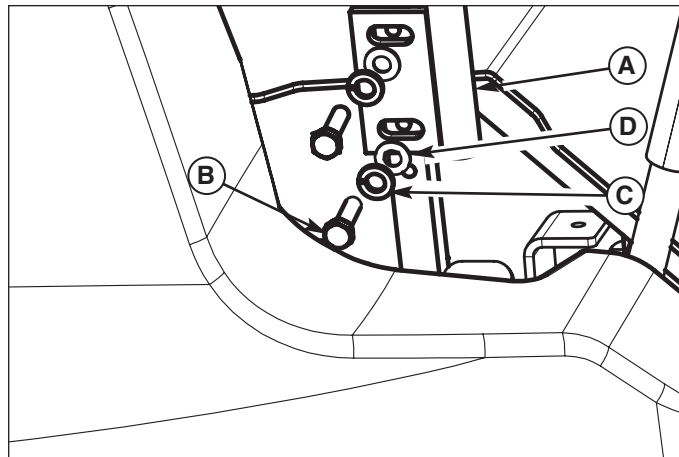

Figure 4. Install the Control Handle(s)
2. Install the ground speed control handles (A, Figure 4) onto the control lever base using the 5/16-18 x 3/4" bolts, 5/16" lock washers and 5/16" flat washers (B, C, & D). Prior to tightening the bolts, align the handles with each other.
NOTE: There is a LEFT-HAND and a RIGHT-HAND control handle. When assembled to the base, the handle base should be pointing towards the rear as shown in Figure 4.